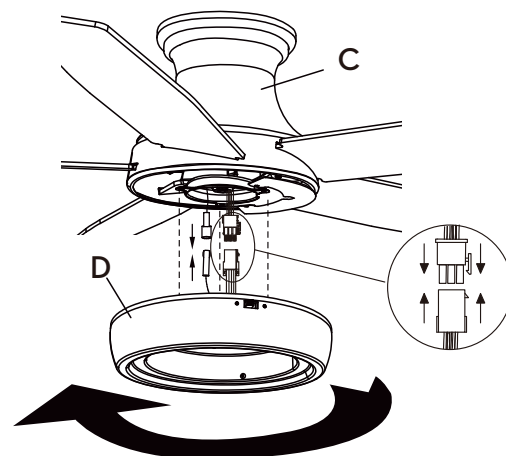

Figure 10
- Connect the blue wire from the fan to the blue wire from the light kit by securely inserting the connectors together. (Figure 10)
- Connect the 6-pin plug from the fan to the 6-pin plug from the light kit by securely inserting the plugs together. (Figure 10)
- Carefully tuck all wires into the switch housing, and align the 3 holes on the light kit (D) to the three screws pre-installed in the switch housing. (Figure 10)